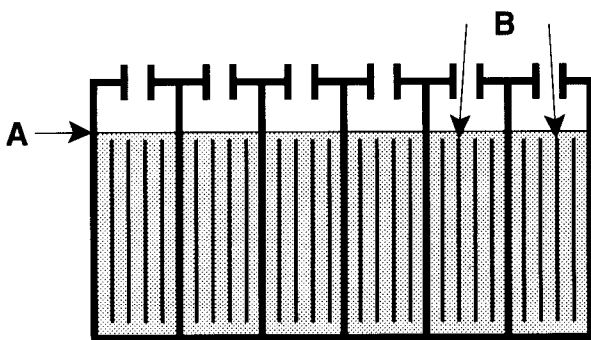

FIG. 21
4. Check water level (A) in each battery cell. Do not charge batteries unless water is slightly covering battery plates (B). If needed, add just enough distilled water to slightly cover plates. DO NOT overfill. Batteries can overflow during charging due to expansion. Replace cell caps before charging. (Figure 21)